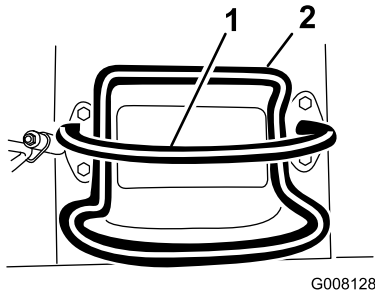

Figure 5
- To stop, release the traction control (Figure 5).